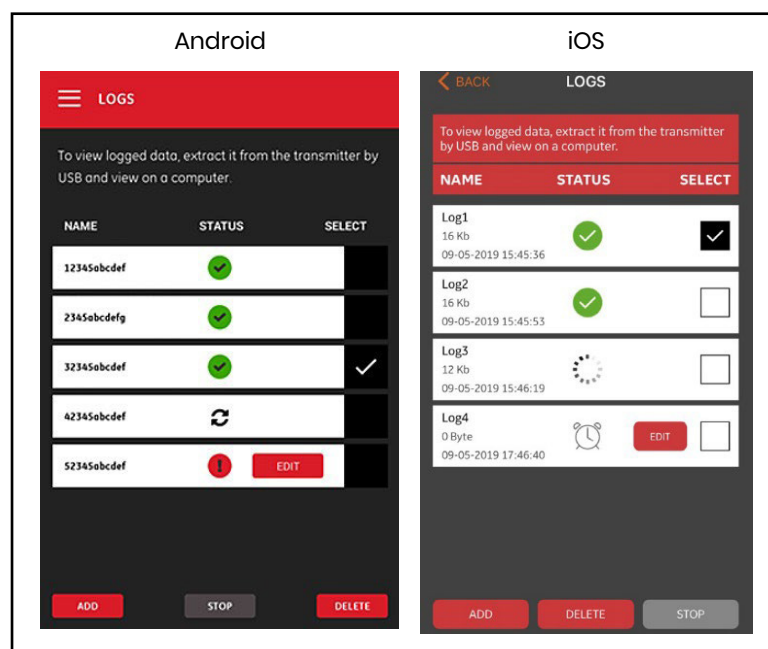

Figure 114: LOGS Main Menu
In the LOGS main menu (see *Figure 114* below), all existing logs and their current status are listed. Each listed log may be edited, stopped or deleted, depending on their current status.
1. On the LOGS main menu (see *Figure 114 on page 85*), click in the SELECT column to the right of the log you wish to delete.
1. On the LOGS main menu (see *Figure 114 on page 85*), click in the SELECT column to the right of the log you wish to stop.
1. On the LOGS main menu (see *Figure 114 on page 85*), click in the SELECT column to the right of the log you wish to edit.